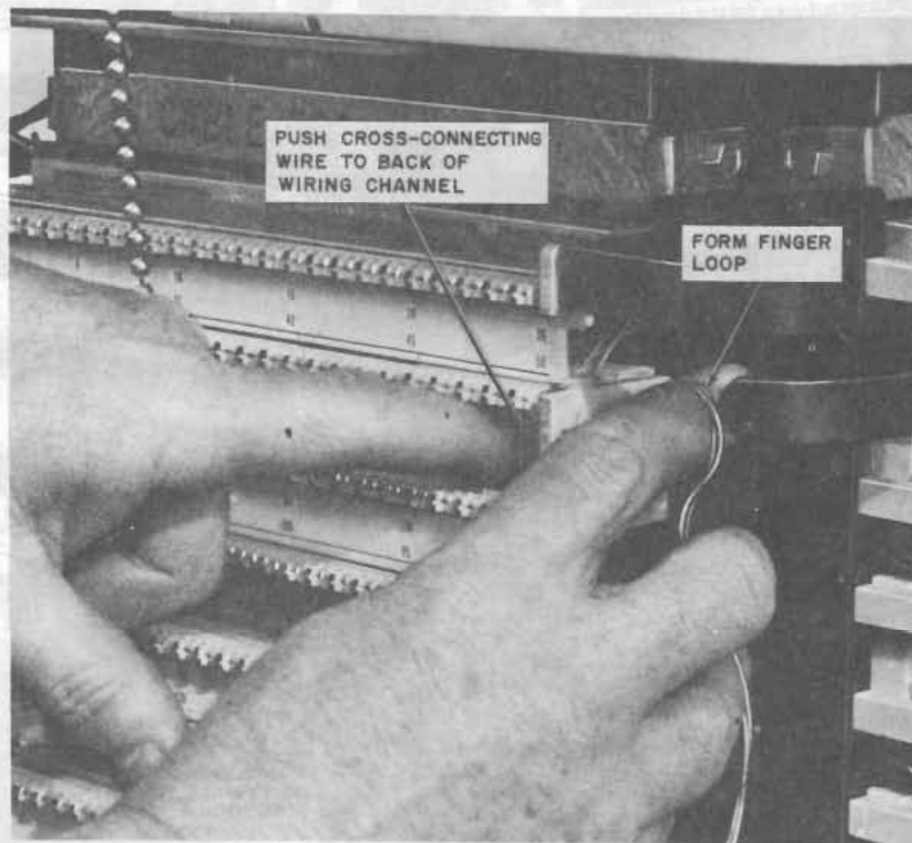

Fig. 5—Placing Cross-Connecting Wire in Wiring Channel and Forming Finger Loop
**3.02** Place new waterproof cap, then push terminated wire to back of wiring channel, position the wires along the channel and through the wiring slot. As the wire comes through the wiring slot form a finger loop (Fig. 5). *These finger loops allow a sufficient amount of slack*